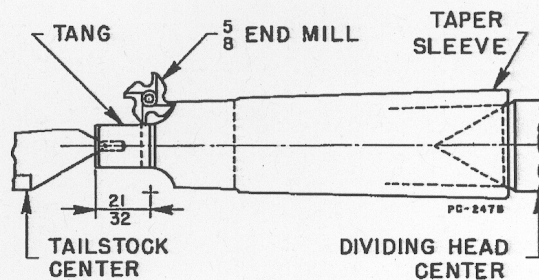

Figure 53B
12. Raise knee until cutter contacts work, move table to right and further raise knee about .125". Lay off the  $2\frac{1}{32}$ " dimension, Figure 53B. Engage table feed and take first cut. Stop machine, move table to right, and turn index crank 20 turns ( $180^\circ$ ). Start machine and take a second cut. Measure thickness of tang with micrometer and repeat above milling operation until correct thickness of tang is reached.